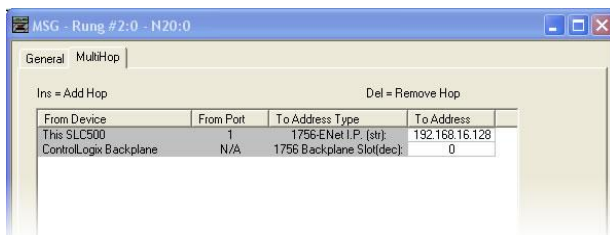

Figure 68: MSG Configuration, "MultiHop" Tab
- e) Under the "MultiHop" tab settings, set the "To Address" in the first row to the inverter's IP address, and the "To Address" in the second row to 0. Refer to Figure 68.